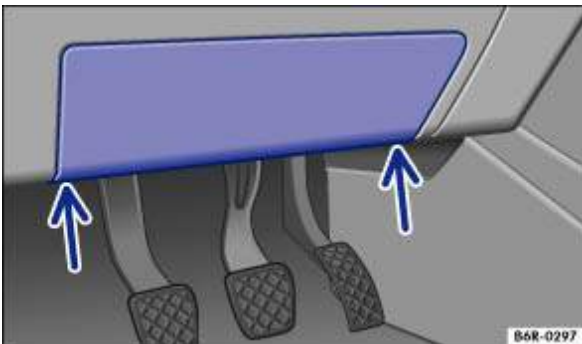

Fig. 203 Dash panel on the driver side: fuse box cover
- Insert a flat object (e.g. the screwdriver from the vehicle tool kit) into the recesses → Fig. 203 (arrows) and carefully prise off the cover.